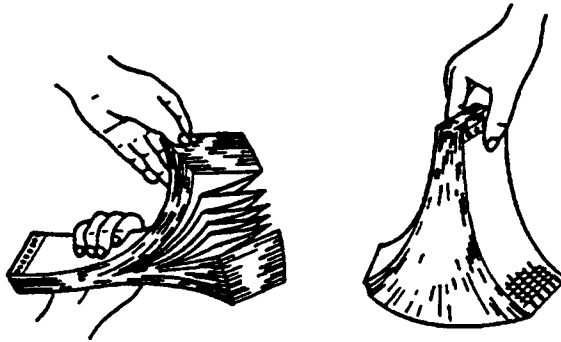

Figure 6.9
- (1) Ruffle both ends of the chart so that the chart sheets can be fed one by one. (See Figure. 6.9).